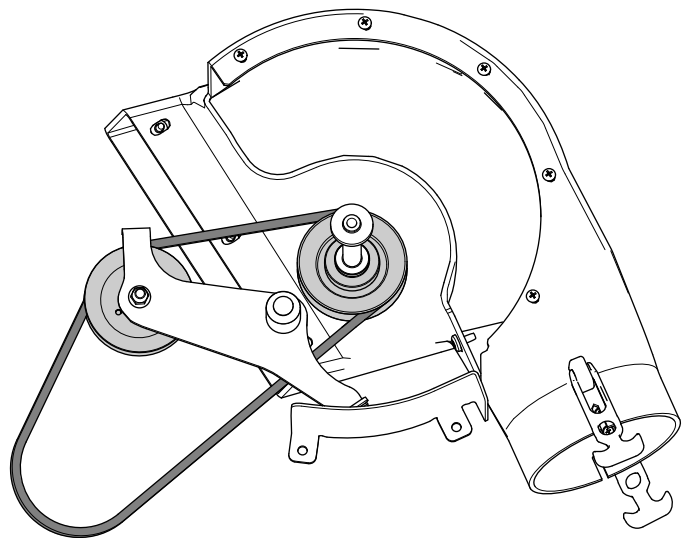

**Figure 40**
1. Align the pivot pin on the blower with the pivot-pin hole in the mower deck (Figure 40).
3. Lower the blower and slide the pivot pin into the pivot hole (Figure 40).